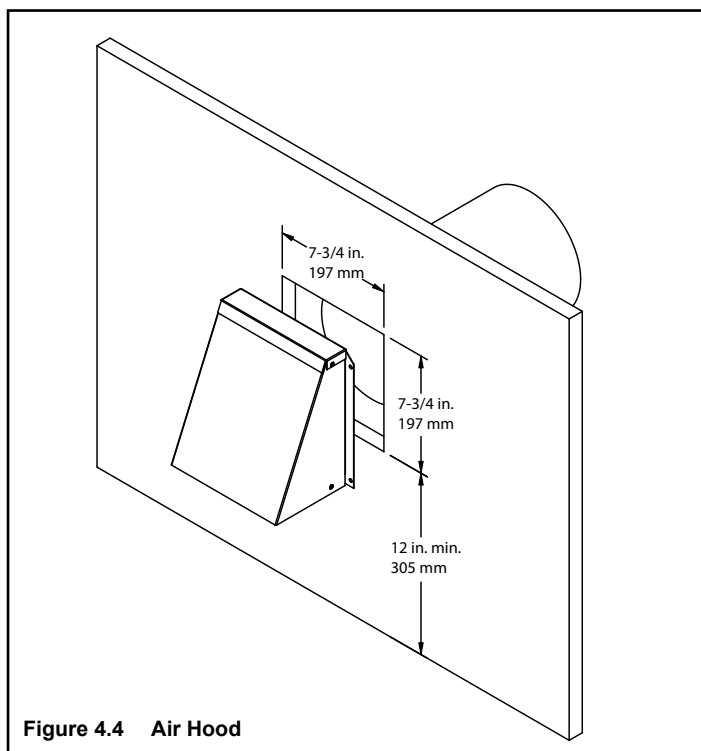

Figure 4.4 Air Hood
- Recommended bottom of a 7-3/4" X 7-3/4" square hole or 7-3/4" diameter hole 12" minimum above bottom of unit. See Figure 4.4.